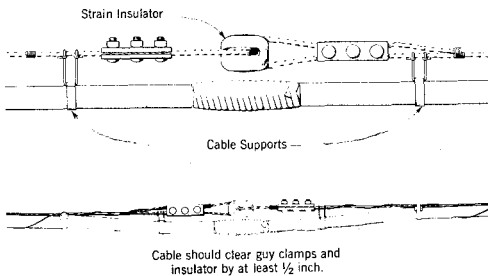

Fig. 3—Location of Joint in Aerial Cable
2.03 An insulating joint in an aerial cable supported by rings, as well as one in a lashed cable, is illustrated in Fig. 3. The joint should be located under the strain insulator.